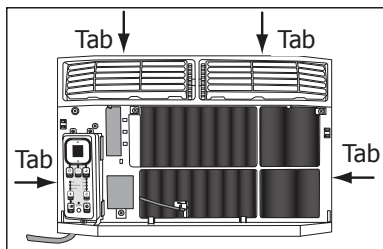

**Figure 2-14.**
1. Pull down front grille panel and remove filter. (See Figure 2-14).